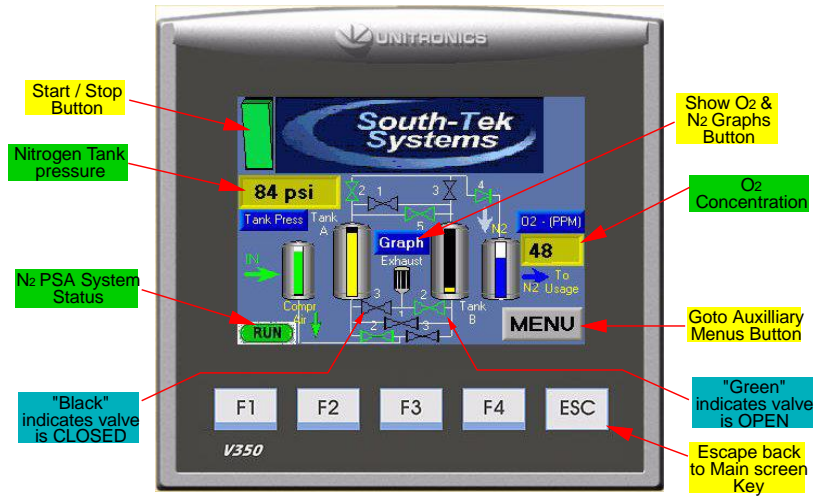
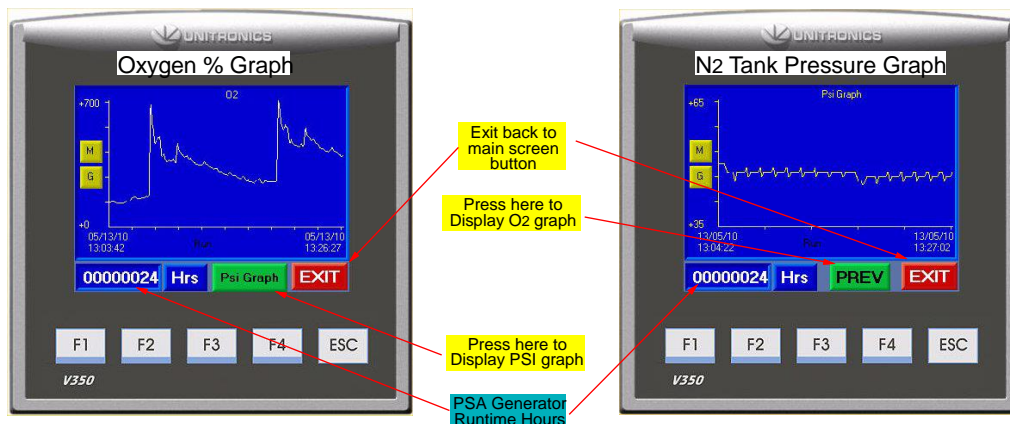

Figure 1: Power Switch/System Status
Figure 2: Graph Menu
From the “Main Screen”, the user can access the “Run Hour” and graphic displays of the O2% content and N2 Storage tank pressure. To do so, touch the icon labelled “Graph” (see **Figure 1**). The bottom left shows the total run hours. The graph shows the current running O2 %. To see the N2 Tank pressure, click on the green PSI button to switch the graph (See **Figure 2**).
The PLC comes standard with a pressure indicator to display the current pressure inside the Nitrogen Storage Tank. Looking at the above **Figure 1**, the tank pressure can be view on the left side on the main screen.
8. When Product Pressure reaches the cut-out pressure (see **5.2.3**), the green “Run” indicator will switch to the amber “Standby” indicator (see **Figure 1**) and nitrogen production will stop. When product is used and Product Pressure falls to the cut-in pressure, the “Standby” indicator will switch back to “Run” and nitrogen production will resume.